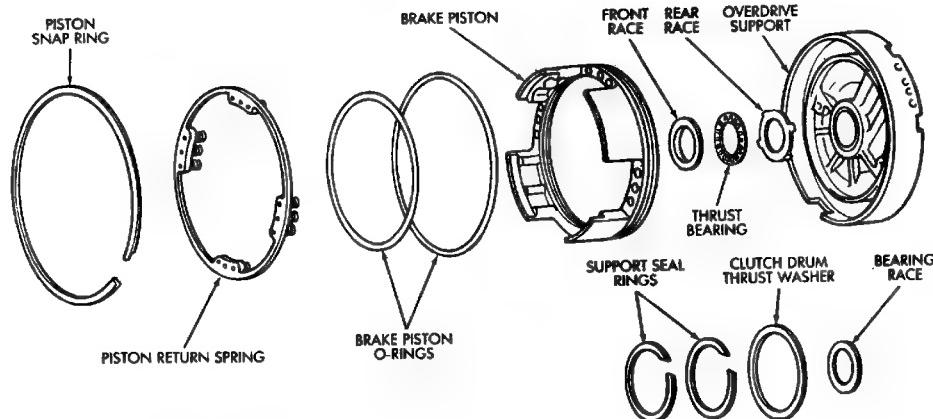
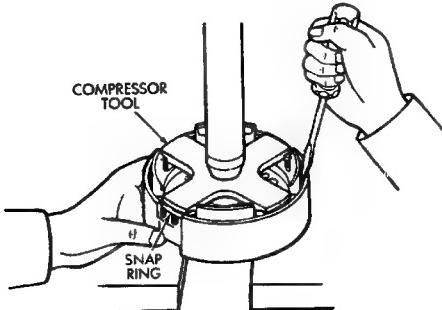
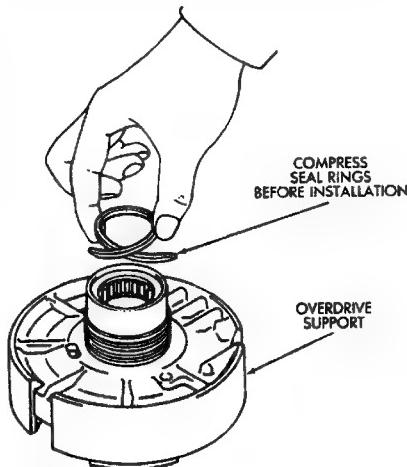

Fig. 1 Overdrive Support Components
Fig. 5 Removing/Installing Piston Snap Ring
Fig. 8 Installing Support Seal Rings
(5) Compress piston return spring with tool B.Vi. FM. 26 and remove piston snap ring (Fig. 5).
(6) Mount support in direct clutch and remove brake piston with compressed air. Apply air to same feed hole used when checking piston operation.
(7) Remove and discard support O-rings (Fig. 1).
(1) Lubricate new support seal rings. Then compress rings and install them on support (Fig. 8).
(2) Lubricate and install new O-rings on brake piston. Then carefully seat piston in support.
(3) Install return springs on brake piston.
(4) Compress return springs with tool (Fig. 5) and install piston snap ring.